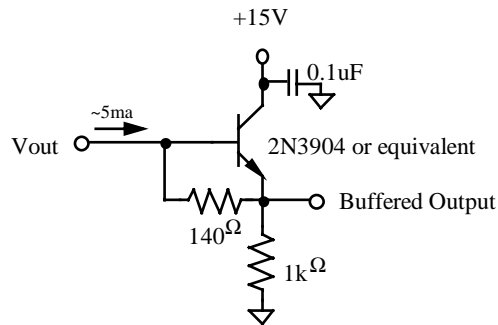

Figure 4 - Recommended Output Structure Load Diagram
Charge presented to the floating diffusion (FD) is converted into a voltage and current amplified in order to drive off-chip loads. The resulting voltage change seen at the output is linearly related to the amount of charge placed on FD. Once the signal has been sampled by the system electronics, the reset gate (ΦR) is clocked to remove the signal and FD is reset to the potential applied by VRD. More signal at the floating diffusion reduces the voltage seen at the output pin. In order to activate the output structure, an off-chip load must be added to the Vout pin of the device - see Figure 4.